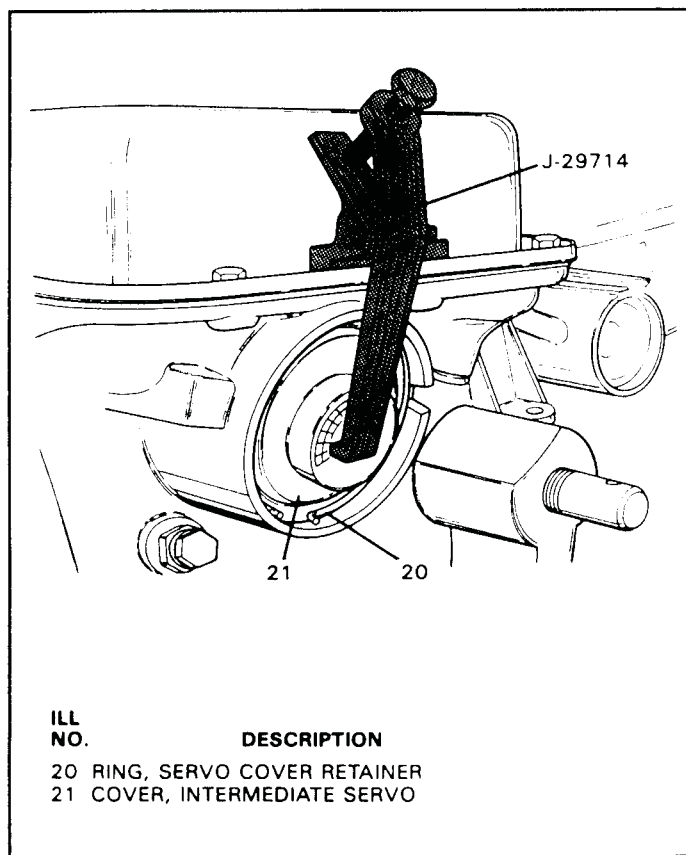

Figure 34
7. Install servo cover compressor tool J-29714 on case with two oil pan bolts (See Figure 34).
9. Remove the servo cover retaining ring, using a small screwdriver (See Figure 34).